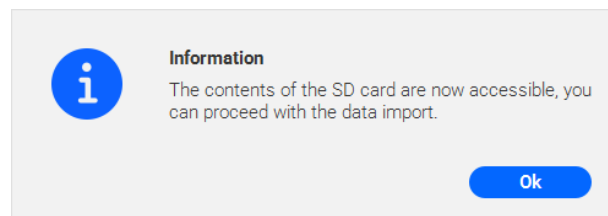

Figure 32. Data access complete for the internal SD card data recorded in Versatile Plus EEG
4. Click **Access**. An information dialogue box will appear to confirm that the data has been correctly accessed (Figure 32). At this point, the device will be recognized by the OS as an external storage device and consequently data can then be imported through SennsLite following the steps of Section 7.2.